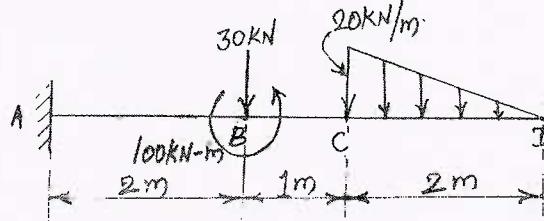

Fig.Q5(b)
b. Draw the shear force and bending moment diagram for the beam loaded as shown in Fig.Q5(b). Locate the point of contraflexure if any.